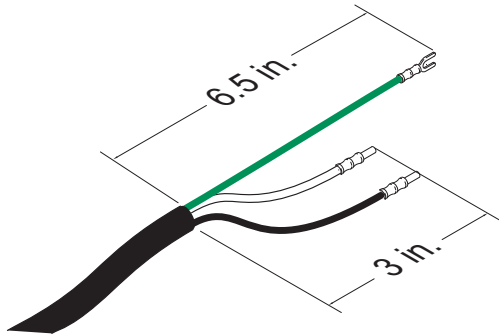

FIG. 3: Power Cord
- Add ferrules as necessary. See **Figure 3**.